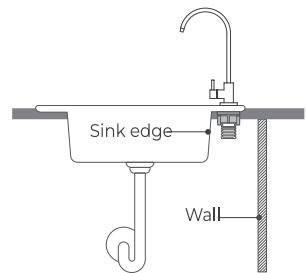

Figure 4
1. Choose a suitable place to install the faucet and leave enough space for the mounting washer to avoid touching the wall or sink. (**Figure 4**).